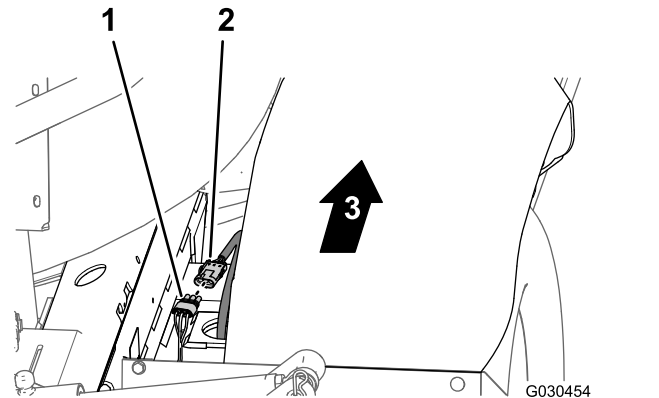

Figure 96
2. At back of the machine (between the right frame tube and the right fender) connect the unlabeled 3-pin connector of the 30.5 cm (12 inches) branch of the rear wire harness to the 3-socket connector of the right traction motor speed-sensor harness (Figure 96).